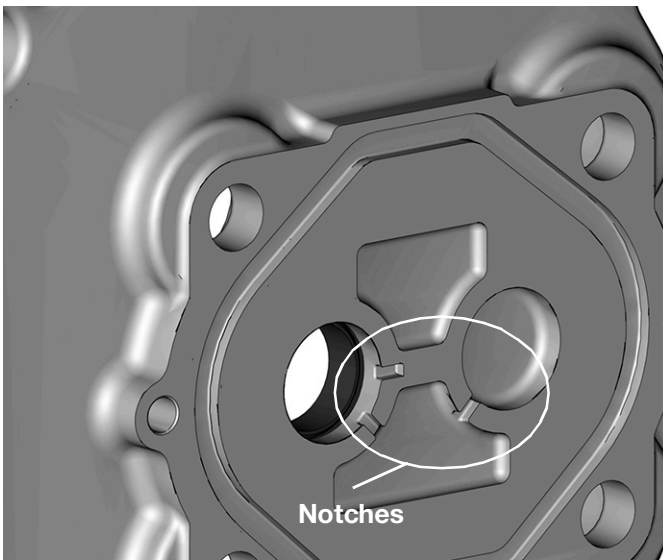
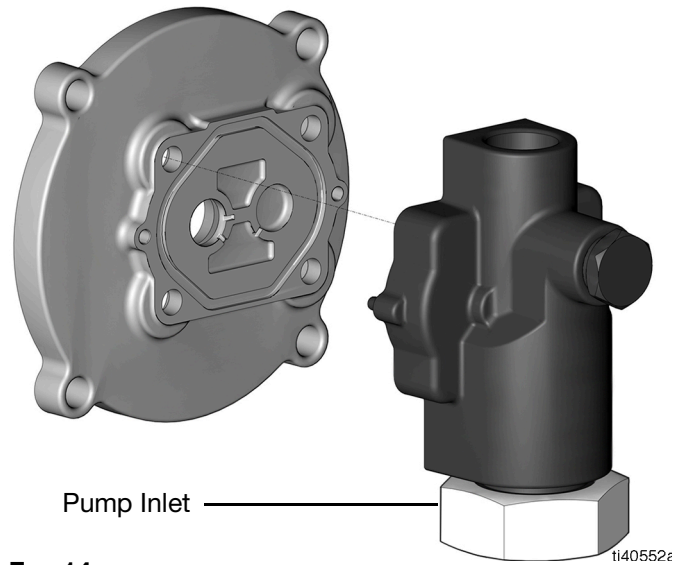

FIG. 13
FIG. 14
3. Position the adapter plate on the pump housing so that the notches point toward the pump inlet (FIG. 13 and FIG. 14).